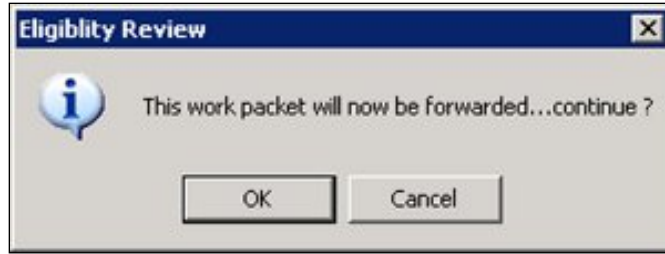

Figure 7-82: Eligibility Review Forward Work Packet Dialog Box
11. Click the **Overall Review** tab. On the bottom left part of the tab, click the COMPLETE WORK STEP button. The Forward Work Packet dialog box is displayed (Figure 7-82).